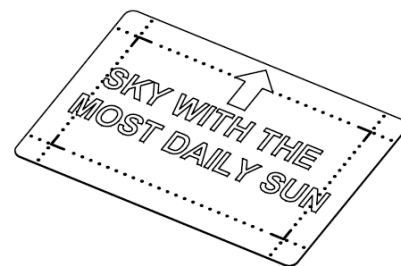

FIGURE 3
1. Orient the ground anchor template so that the long side is facing the part of the sky with the most daily sun. In the Northern Hemisphere, the southern sky usually has the most daily sun (Figure 3).